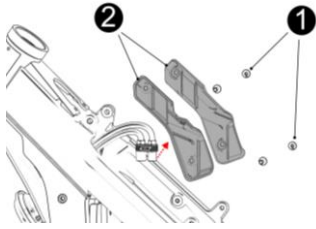

Fig 47
11.18 Dismount left and right limited blocks of battery (see Fig 47)